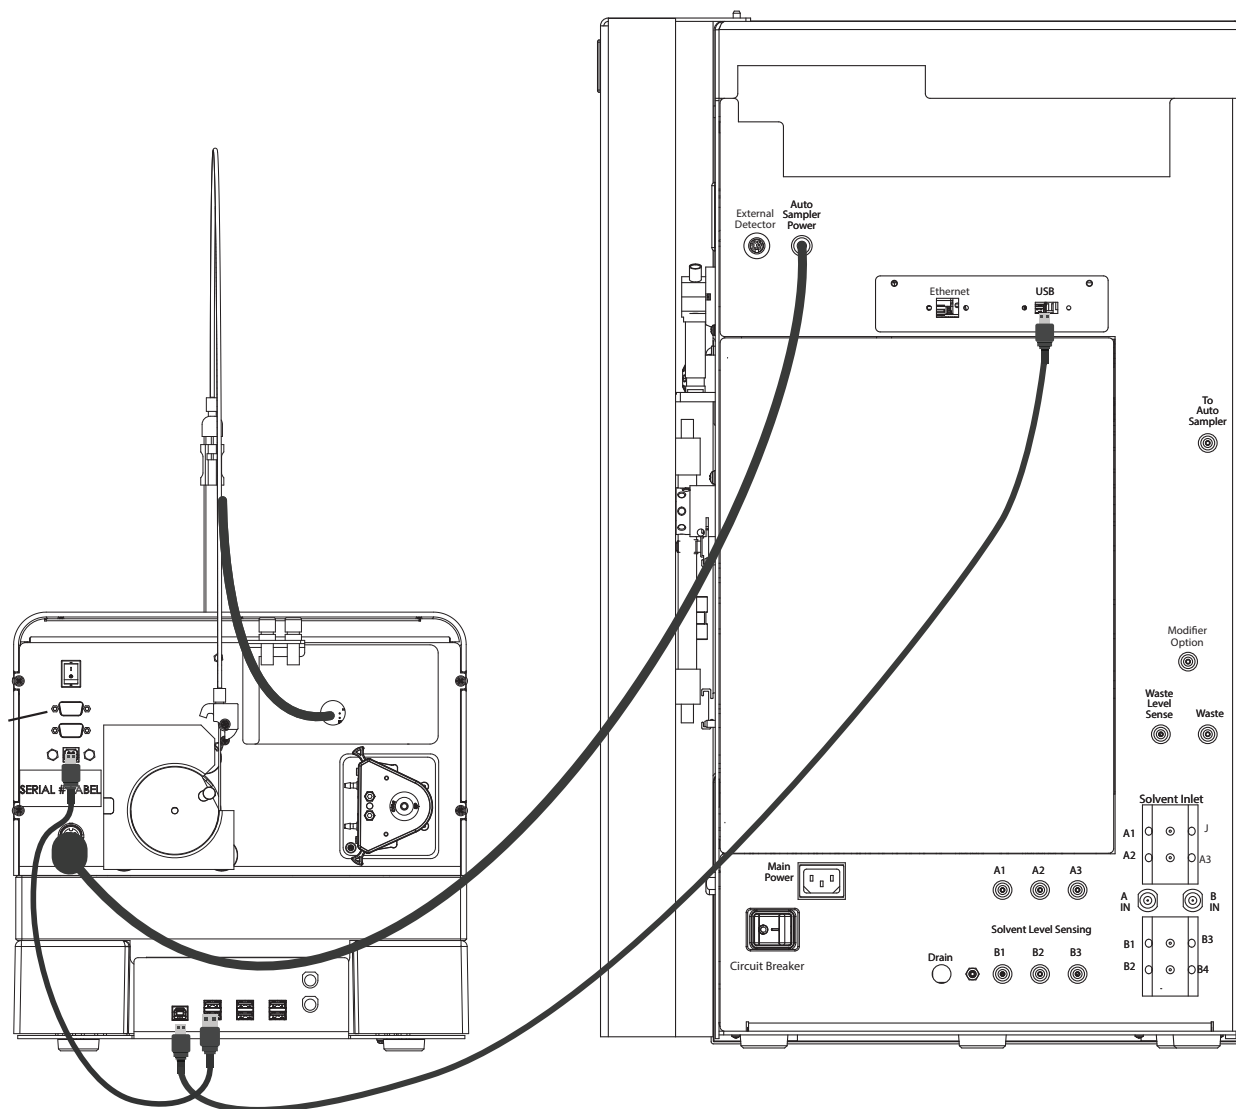

Figure 2-23 Diagram of the AutoSampler and ACCQPrep USB connections
12. Connect the long USB cable (provided) from the USB-A port on the back of the ACCQPrep to the USB-B port on the lower portion of the back panel on the AutoSampler Module (Figure 2-23).
Autosampler Module should already be pre-installed. If not, make the connection as shown in Figure 2-23.